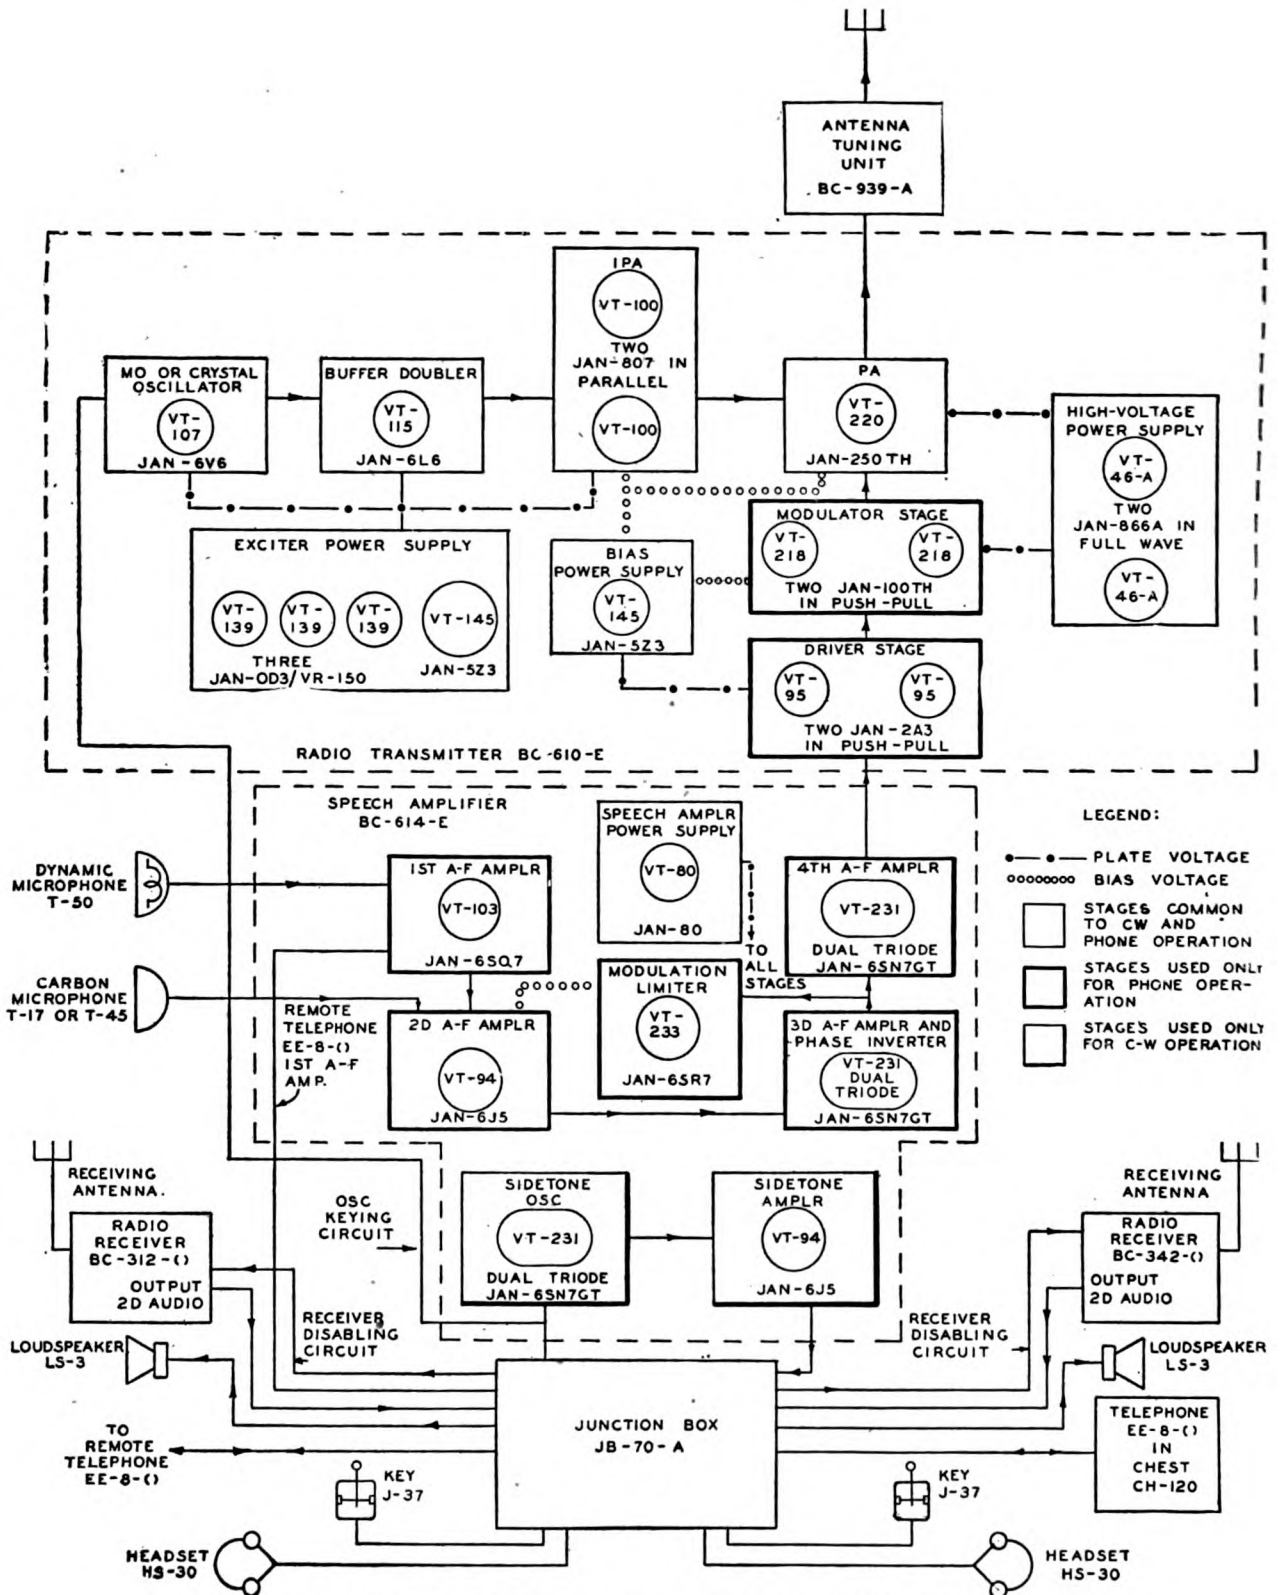

Figure 96. Radio Sets SCR-399-A and SCR-499-A---complete block diagram.
Figure 96, an over-all system block diagram, shows the complete function of Radio Sets SCR-399-A and SCR-499-A. The major components of the radio set are: Radio Transmitter BC-610-E, Antenna Tuning Unit BC-939-A, Speech Amplifier BC-614-E, Junction Box JB-70-A, and Radio Receivers BC-312-() and BC-342-(). The signal paths are as shown in figure 96.
- (1) Block diagram of Radio Sets SCR-399-A and SCR-499-A. (See fig. 96.)